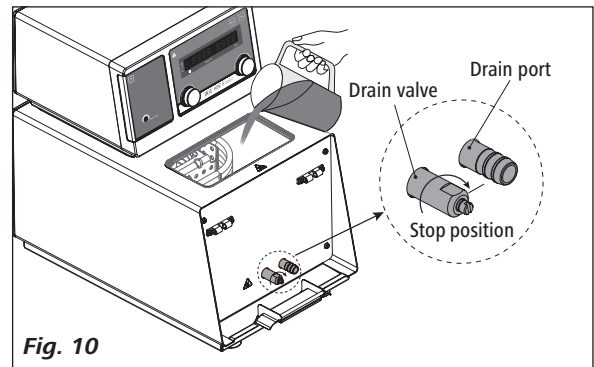

Fig. 10
- Check and make sure that the drain valve is closed (the stop position in clockwise direction, see **Fig. 10**).
- Connect the mains plug and turn on the device with mains switch (2).
- Open the lid (16) and fill fluid to the bath.